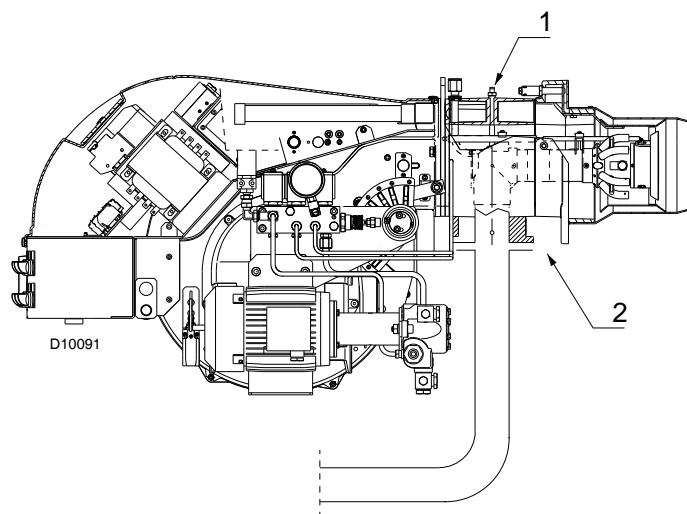

Fig. 27
Gas manifold pressure measured at test point 1)(Fig. 27), with:
- subtract the combustion chamber pressure from the gas pressure measured at test point 1)(Fig. 27).
- Gas pressure at test point 1)(Fig. 27) = 3.20 "WC